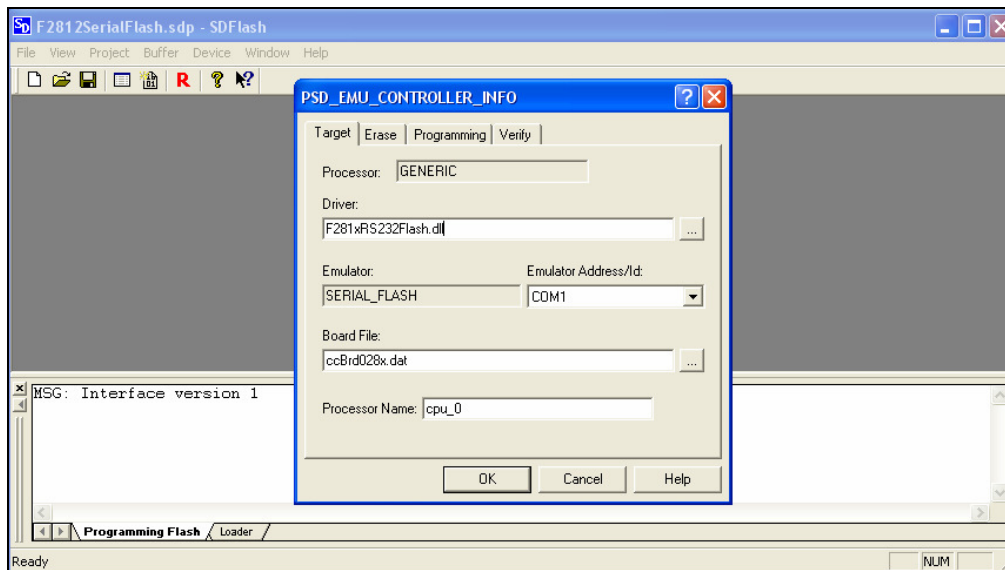

Figure 3: PSD_EMU_CONTROLLER_INFO Target Tag
6. Step 4 will open up the PSD_EMU_CONTROLLER_INFO window shown in *Figure 3*.
- 6.1.1. Please make sure that the screen setup for the Target tab is as shown in *Figure 3*.